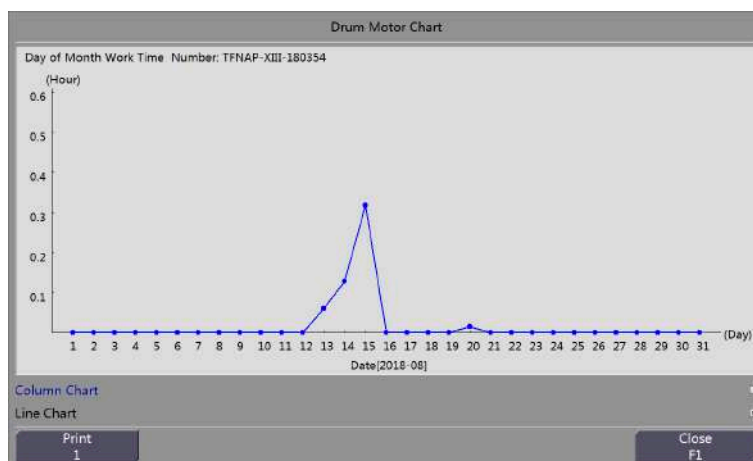
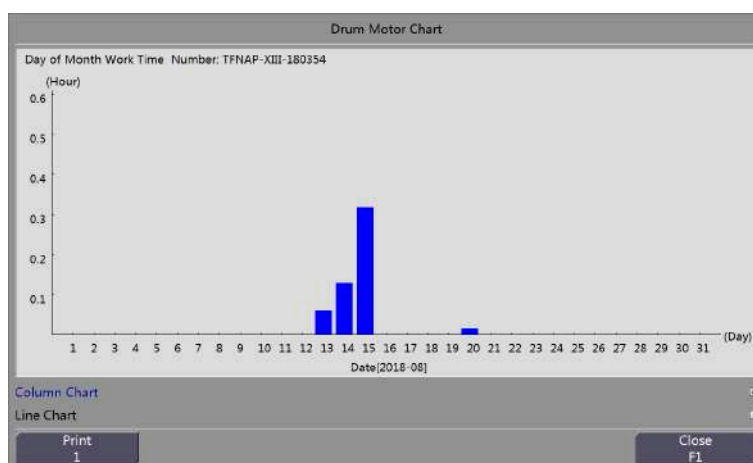

Figure 15-20 Drum Motor Working Chart (Line Chart)
Figure 15-21 Drum Motor Working Chart (Column Chart)
Step 4 The selected records can be displayed in a line chart or column chart to provide an intuitive view of the running status of the equipment, as shown in Figure 15-20 and Figure 15-21.